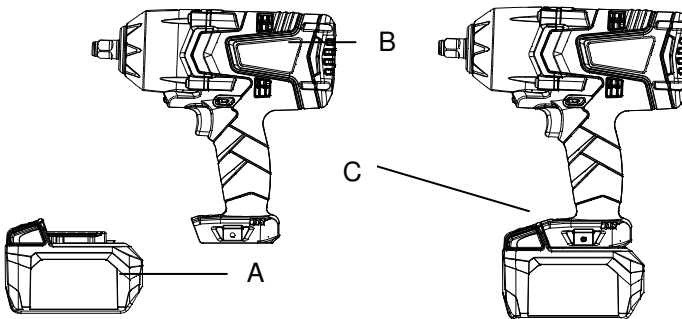

Fig. 2
TO REMOVE BATTERY PACK: Depress the battery release button (C) and pull battery pack (A) out of tool (B). (see Fig. 2)
TO INSTALL BATTERY PACK: Push battery pack(A) onto tool until it locks in place. (see Fig. 2)